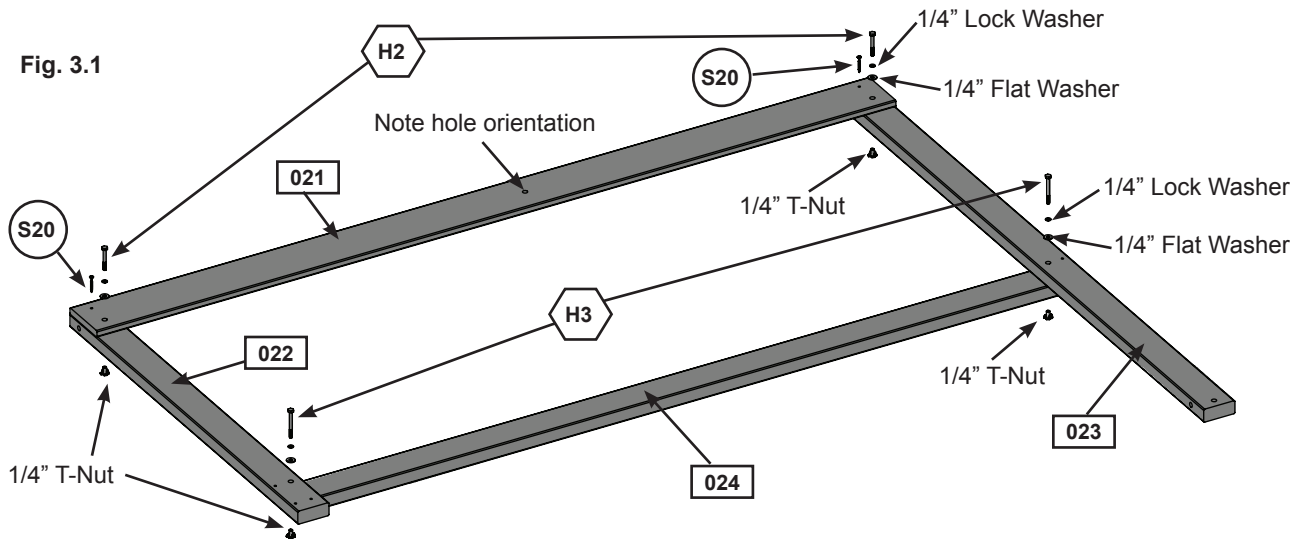

Fig. 3.2
A: Refer to Step 2 but placing (023) Upright Long and (022) Upright Short on the opposite ends of the (021) Lower Front Back. Attach each end using 1 (H2) 1/4 x 2" Hex Bolt (with lock washer, flat washer and t-nut) and 1 (S20) #8 x 1-3/8" Wood Screw making sure to note hole orientation. (fig. 3.1 and fig. 3.2)